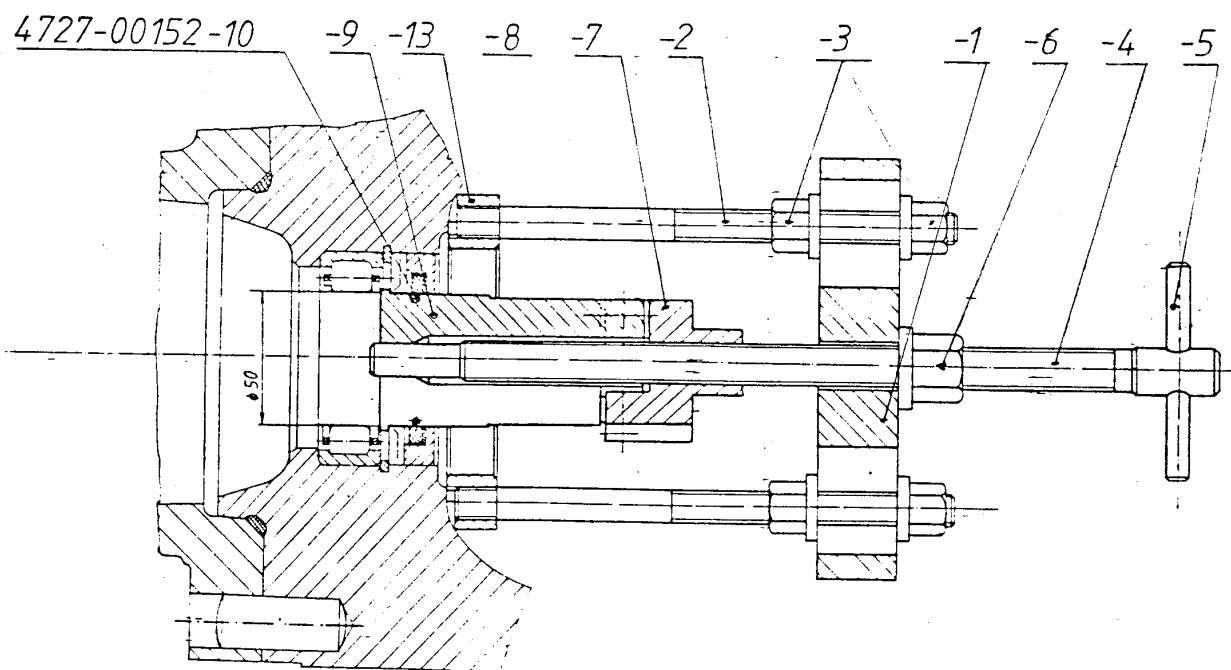

*Fig. 1.: PULLING OUT THE CYLINDRIC ROLLER BEARING FROM THE SPINDLE*
By means of the puller shown in **Fig. 1**, pull out the seal retainer (73), the sealing ring (30).